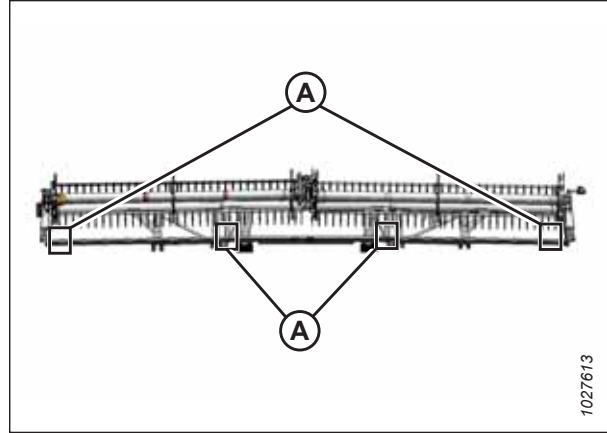

Figure 4.283: FlexDraper® Measurement Locations – Double Reel
- Double-reel headers: Figure 4.283, page 436